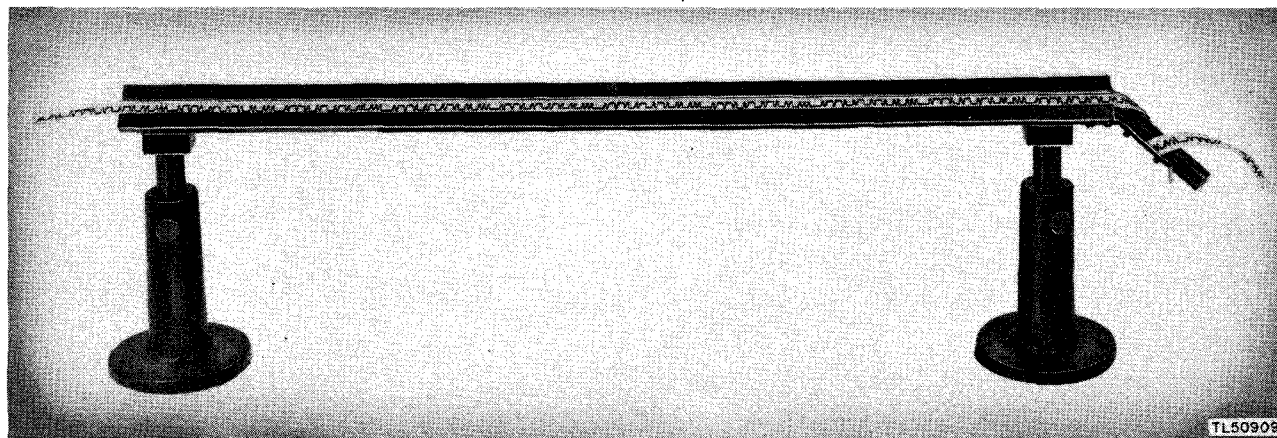

Figure 88. Tape bridge, type 4-K.
**a. Description.** A tape bridge, such as shown in figure 88, is used to guide the moving paper tape upon which is recorded the incoming message over the keyboard of a typewriter. An operator can then transcribe the message from the tape as it passes in front of him. The tape bridge, type 4-K, consists of two cast metal supports attached to a metal bridge. The distance between the
b. When the incoming tape is pulled from a loose pile of tape, or when the recorder is not directly in line with the groove in the bridge, the tape guide rod (fig. 88) should be used. Loop the tape around the guide rod and under the spring clip. When the tape enters the bridge directly in line with the groove, it is not necessary to use the tape guide rod.